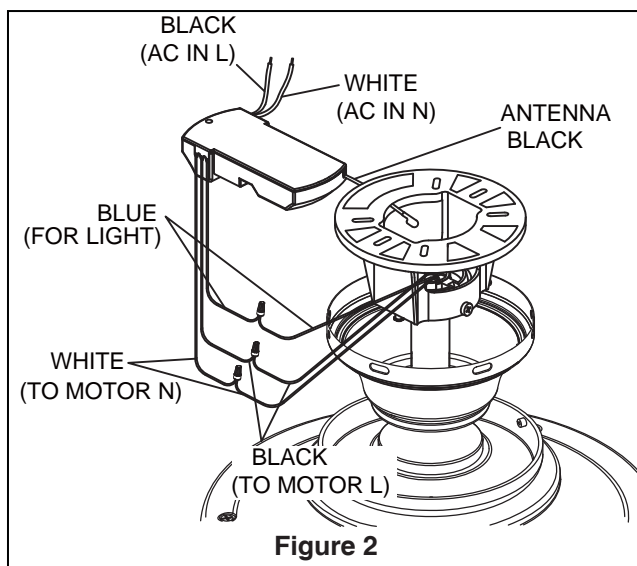

Figure 2
1. Connect wires using connectors as shown in Figure 2.